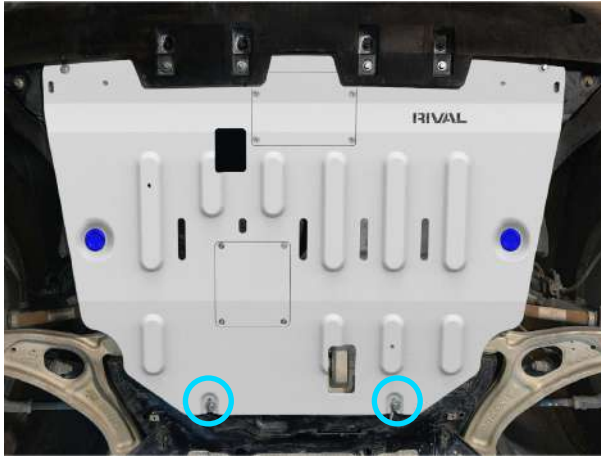

Fig. 4
4. Slide front of the skid plate (item 1) under the factory bumper and onto the previously installed M6 bolts (item A). Secure the rear of the skid plate using M6x30 bolts (item A), M6 washers (item C) and M8 washers (item B) as shown in Fig 4&5.